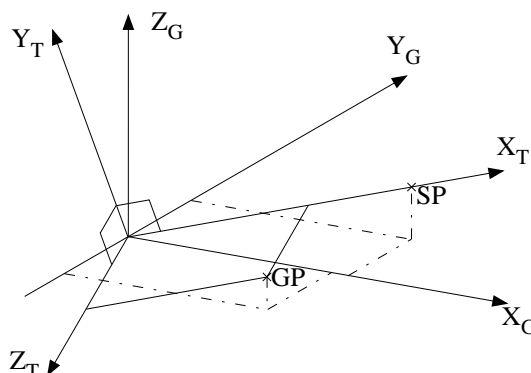

Figure 5.32 Definition of a transformed coordinate system
The transformation matrix is defined by giving the global coordinates of a second point (SP) and a guiding point (GP). The x-axis of the transformed coordinate system, X_T , goes from the origin to SP. The transformed z-axis, Z_T , is perpendicular to X_T and so that GP lies in the X_T - Z_T plane on the positive Z_T side. Y_T is perpendicular to X_T and Z_T . See Figure 5.32.